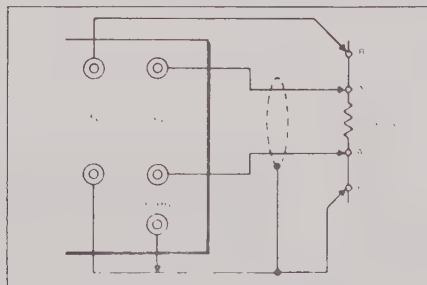

Figure 2-5 Four-Wire Resistance Measurement
2. Connect the Vx terminals to inner connection points, A, of the unknown resistor as shown in Figure 2-5.
3. Connect the current source and sink to the outer connection points, B, of the unknown resistor as shown in Figure 2-5.
4. Connect GUARD to the low side (current sink) of the circuit as shown in Figure 2-5.